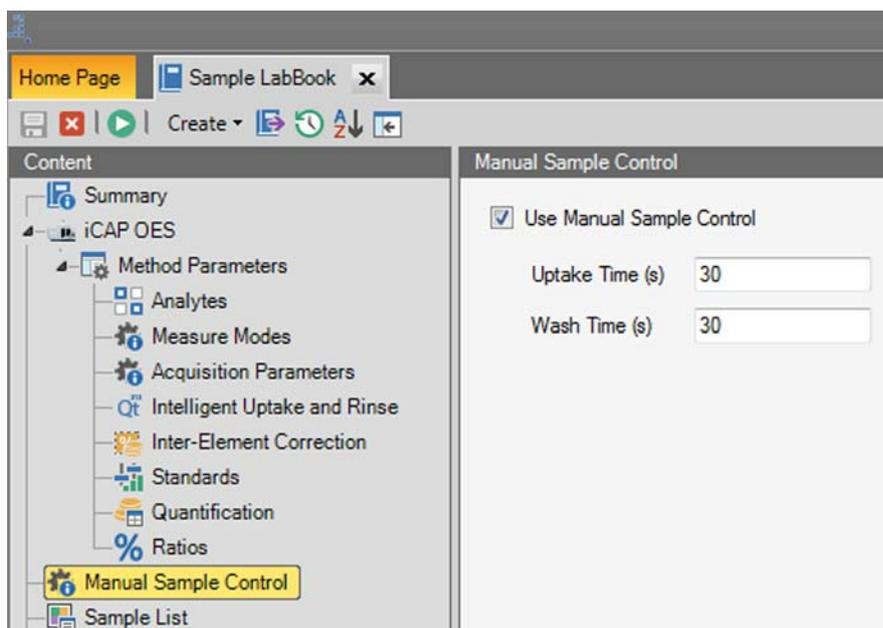

Figure 6-34. Manual Sample Control page
- Use **Manual Sample Control** to disable the autosampler and define the Uptake time and the Wash time. See Figure 6-34.